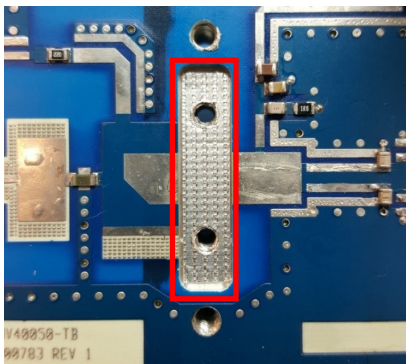

Figure 2
5. Place indium into test fixture making note of the marked side which will denote the indium side, which should be placed facing down in the test fixture. Make note of any screw holes used for flange device and using the utility knife make small incisions in to areas as shown in **Figures 2 and 3**. Make sure the indium foil covers the entire area, denoted by the red squares in **Figures 2 and 3**.